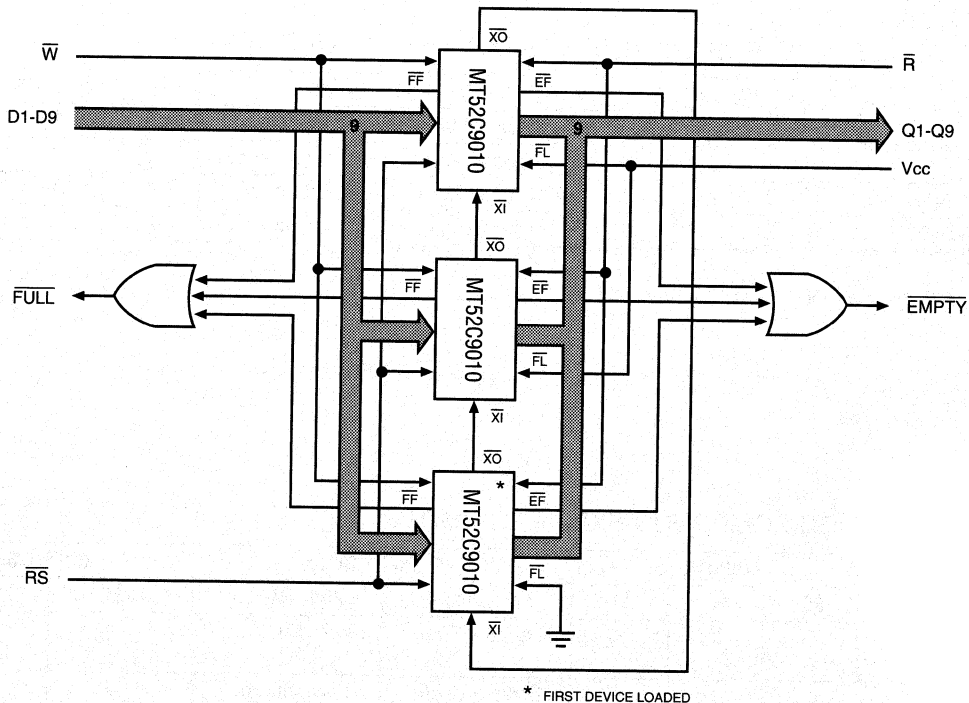

Figure 1
The FIFO word width can be expanded, in increments of 9 bits, using either the stand alone or groups of expanded-depth mode FIFOs. Expanded-width operation is achieved by tying devices together with all control lines (\overline{W} , \overline{R} , etc.) in common. The flags are monitored from one device or one expanded-depth group (Figure 1) when expanding depth and width.
Multiple MT52C9010s may be cascaded to expand the depth of the FIFO buffer. Three pins are used to expand the memory depth, \overline{XI} , \overline{XO} /(HF) and \overline{FL} /(RT). Figure 1 illustrates a typical three-device expansion. The DEPTH EXPANSION mode is entered during a RESET cycle, by tying the \overline{XO} /(HF) pin of each device to the \overline{XI} pin of the next device in the chain. The first device to be loaded will have its \overline{FL} /(RT) pin grounded. The remaining devices in the chain will have \overline{FL} /(RT) tied HIGH. During RESET cycle, \overline{XO} /(HF) of each device is held HIGH, disabling reads and